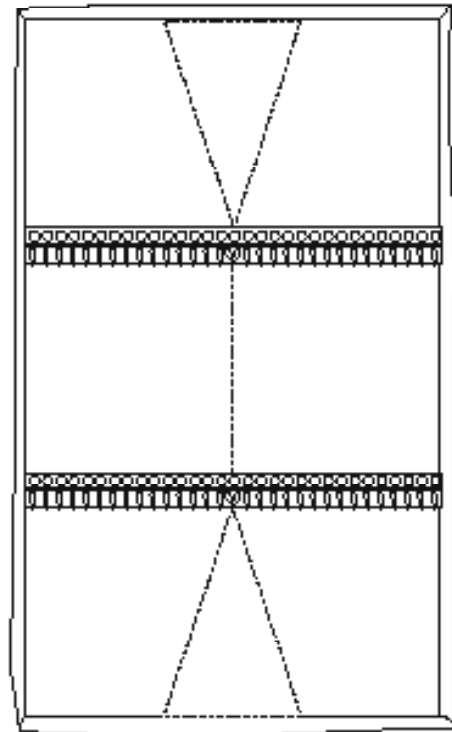

Figure 1
2. Unroll and layout the tent on the drop cloth. Make sure to align the sections so that the lace edge and the grommet edge are opposite each other. See Figure 1.